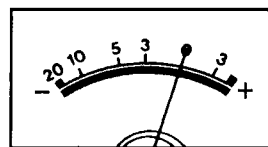

Figure E51
- Adjust VR41014 so that needle of Audio level CH2 Meter reaches " $0 \pm 0.5$ " as shown in Figure E51.